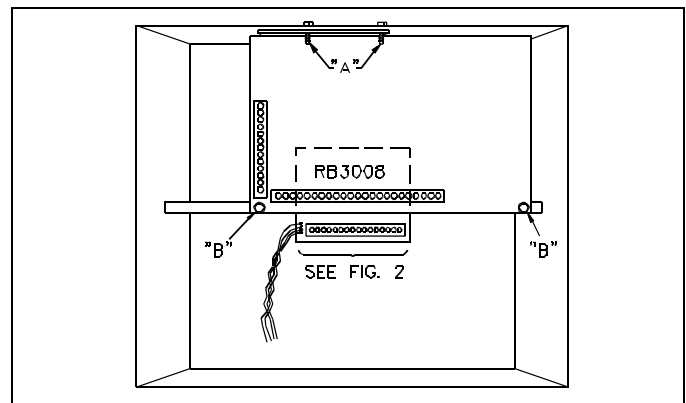

Fig. 1. Location of RB3008 within H1518 or CF1518 enclosure.
**RB3008.** To mount one Relay Board inside a large MA3000 or Signature 5500 housing (H1518 or CF1518), refer to Fig. 1 and proceed as follows:
1. Remove the motherboard from the enclosure by removing the two screws that secure the heat sink to the top of the enclosure ("A" in Fig. 1) and the two screws at the bottom of the board that secure it to the cross rail ("B" in Fig. 1).